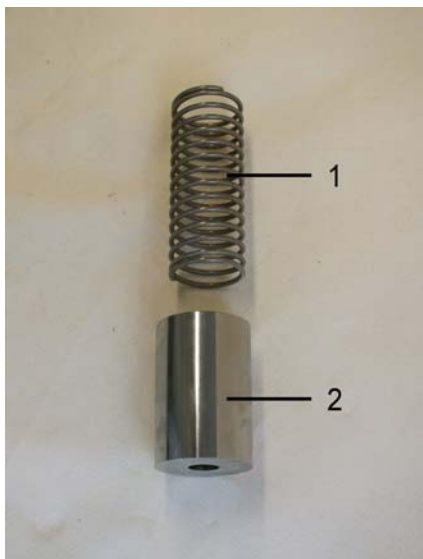

Fig. 51: Inner parts
8. ➤ Insert the spring (Fig. 51/1) into the float (Fig. 51/2).